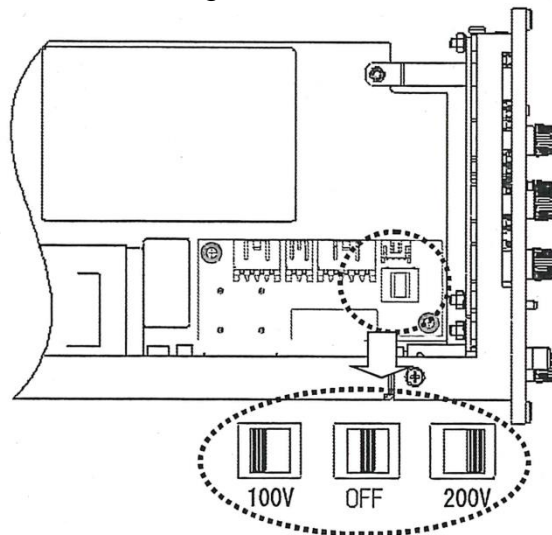

Fig. 7-7
3. The AC power supply selection switch is positioned at the location shown in Fig. 7-7. Selection to 200VAC, OFF, and 100VAC is available. Voltage switching is available by sliding the switch to the target voltage position. The fuse can support both 100VAC and 200VAC. The installed fuse (100VAC/200VAC, 100mA: 0334-3006) can therefore be used for both supply voltages.